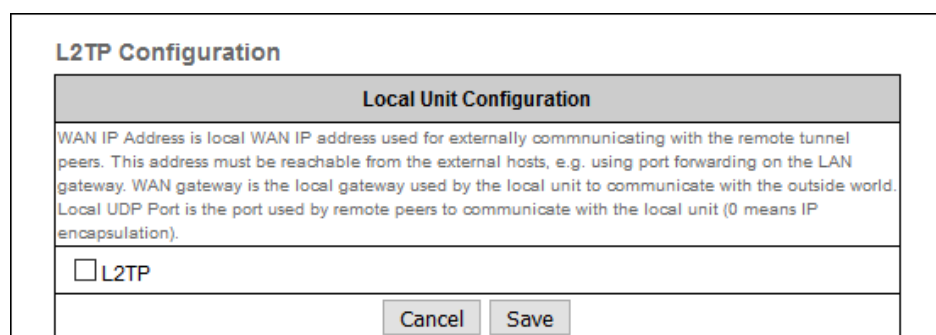

Figure 49. Configurator GUI (L2TP Configuration dialog)
- The **L2TP Configuration** dialog will be shown (Figure 49 \(page 131\)).